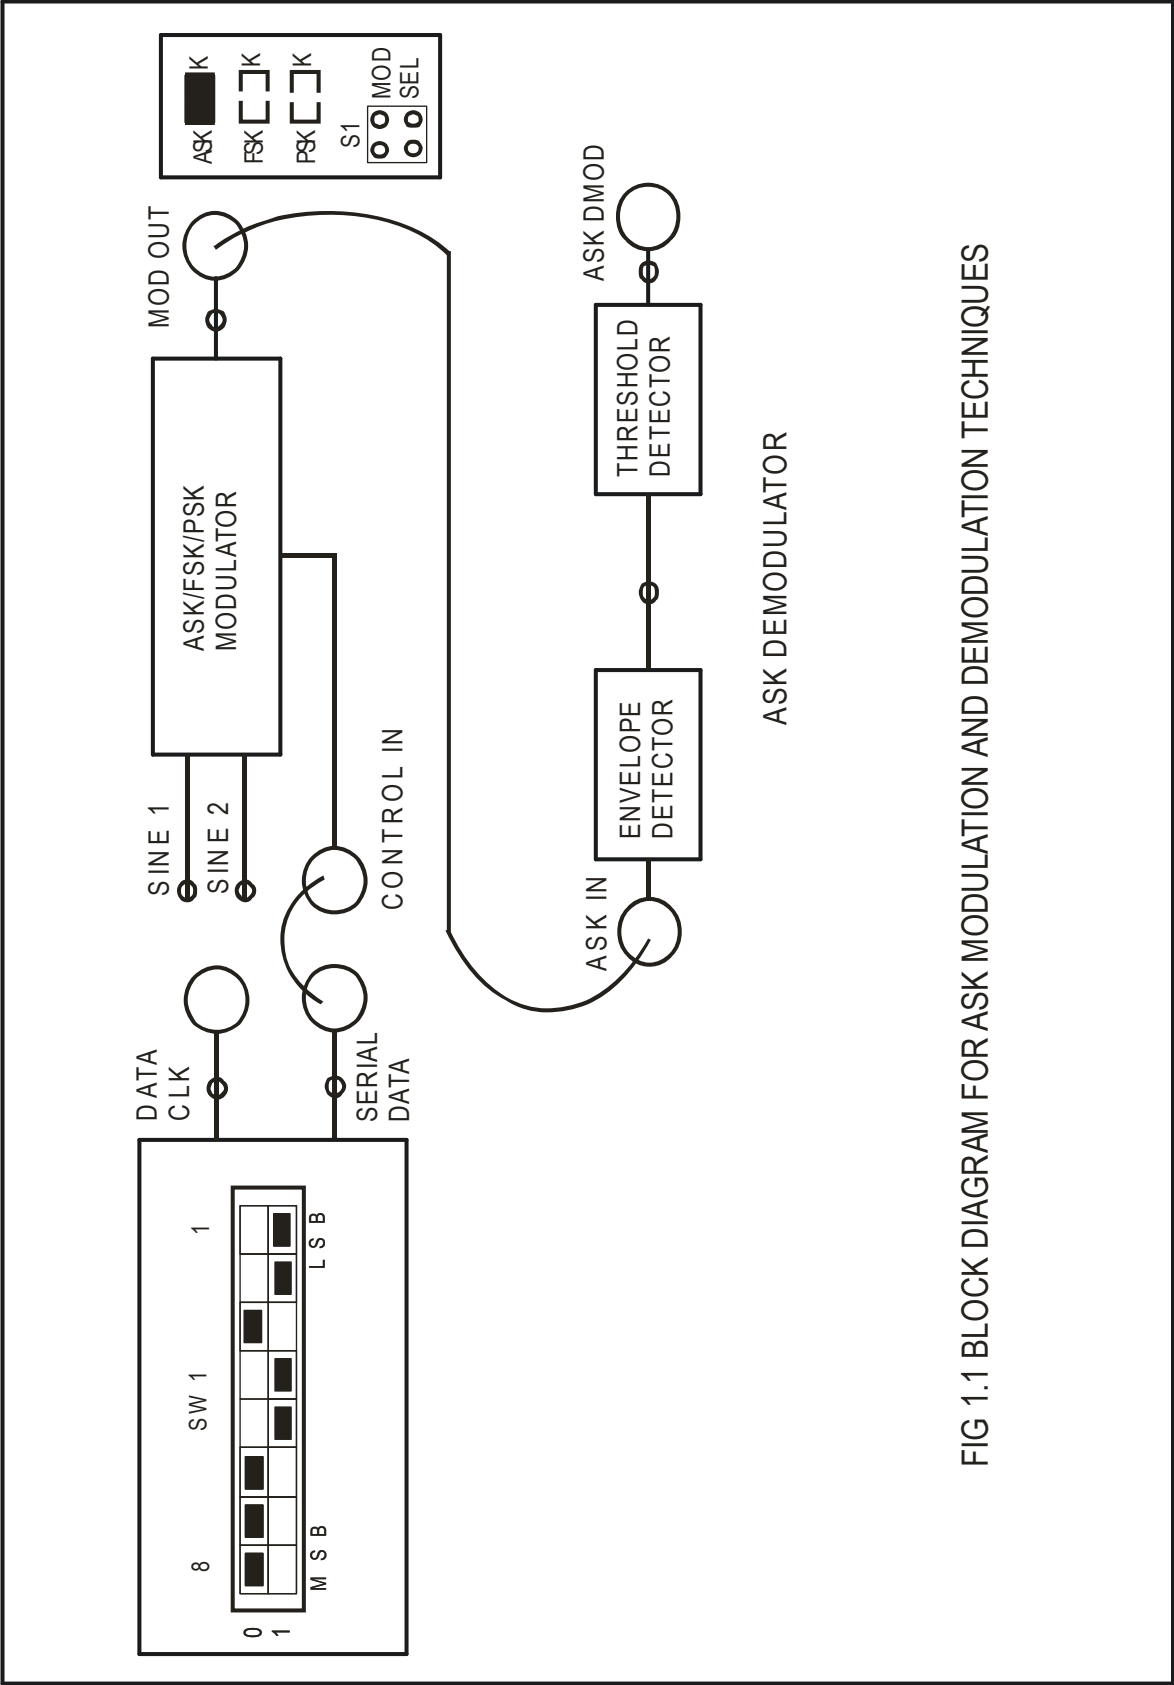

FIG 1.1 BLOCK DIAGRAM FOR ASK MODULATION AND DEMODULATION TECHNIQUES
1. Refer to the Fig. 1.1 and carry out the following connections and switch settings.